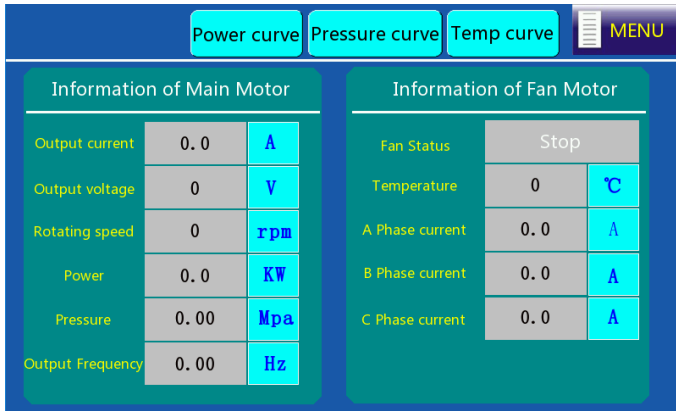

Figure 4-13 Running information interface
9. Choose **Running Info** in the menu. The interface shown in Figure 4-13 is displayed.